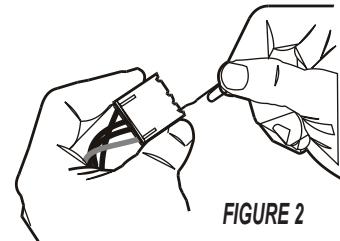

FIGURE 2
5. Unplug the tan wire from the door switch. Unlock the other tan wire from connector CON2 by first unplugging the Molex housing from the board, and then unlocking the terminal from the housing with a paper clip. See *Figure 2*.